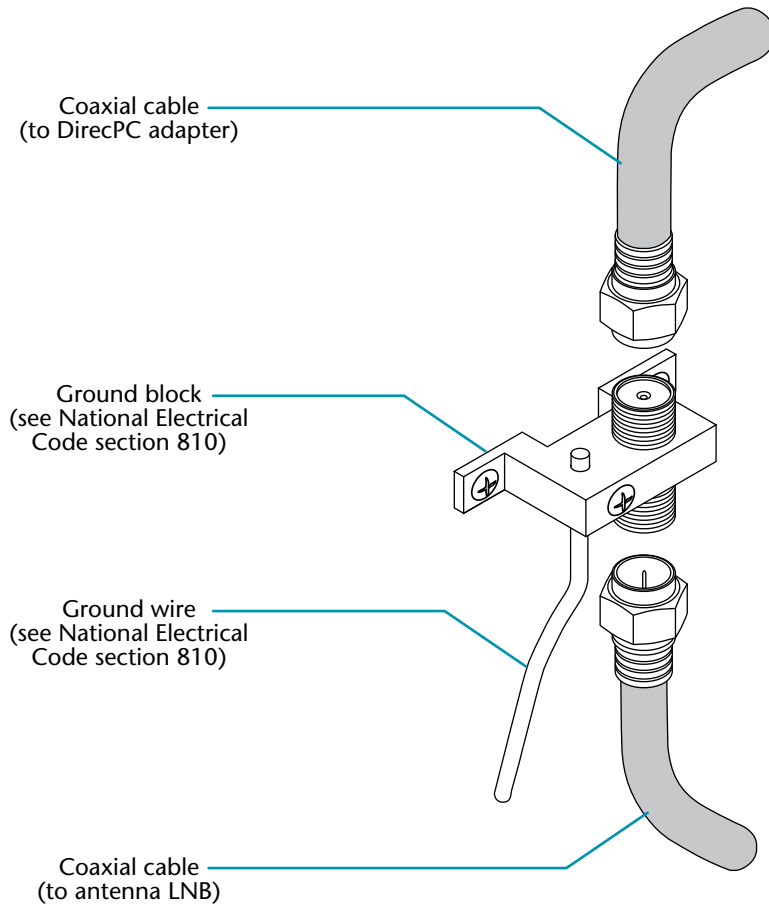

Figure 4-55. Installing cables onto the grounding block
3. Connect the remaining end of the LNB cable to the grounding block (see figure 4-55).